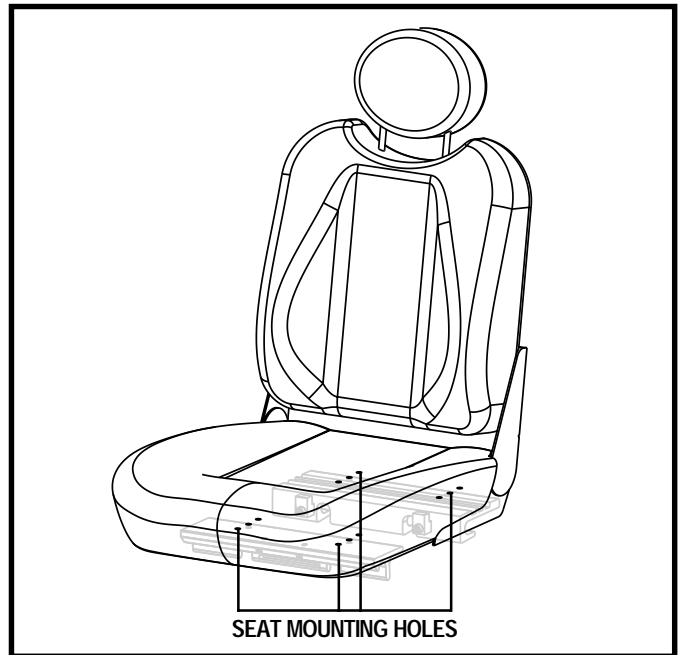

Figure 15. Seat Mounting Holes
6. Reposition the extrusions on a different set of mounting holes. You must move both extrusions the same number of holes either forward or backward. See figure 15.